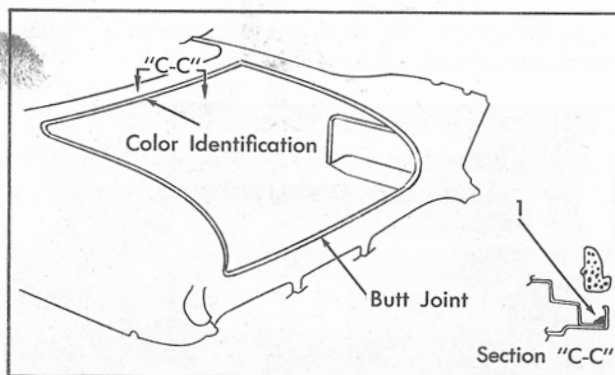

Fig. 17-54 Rear Compartment Weatherstrip
2. Using pressure type gun, flow bead of weatherstrip cement into outer lower corner of rear compartment gutter around entire opening as indicated by "1" in Section "C-C", Fig. 17-54.
4. Using flat-bladed tool with rounded corners, insert weatherstrip across top of rear compartment opening starting at color identification mark, Fig. 17-54.